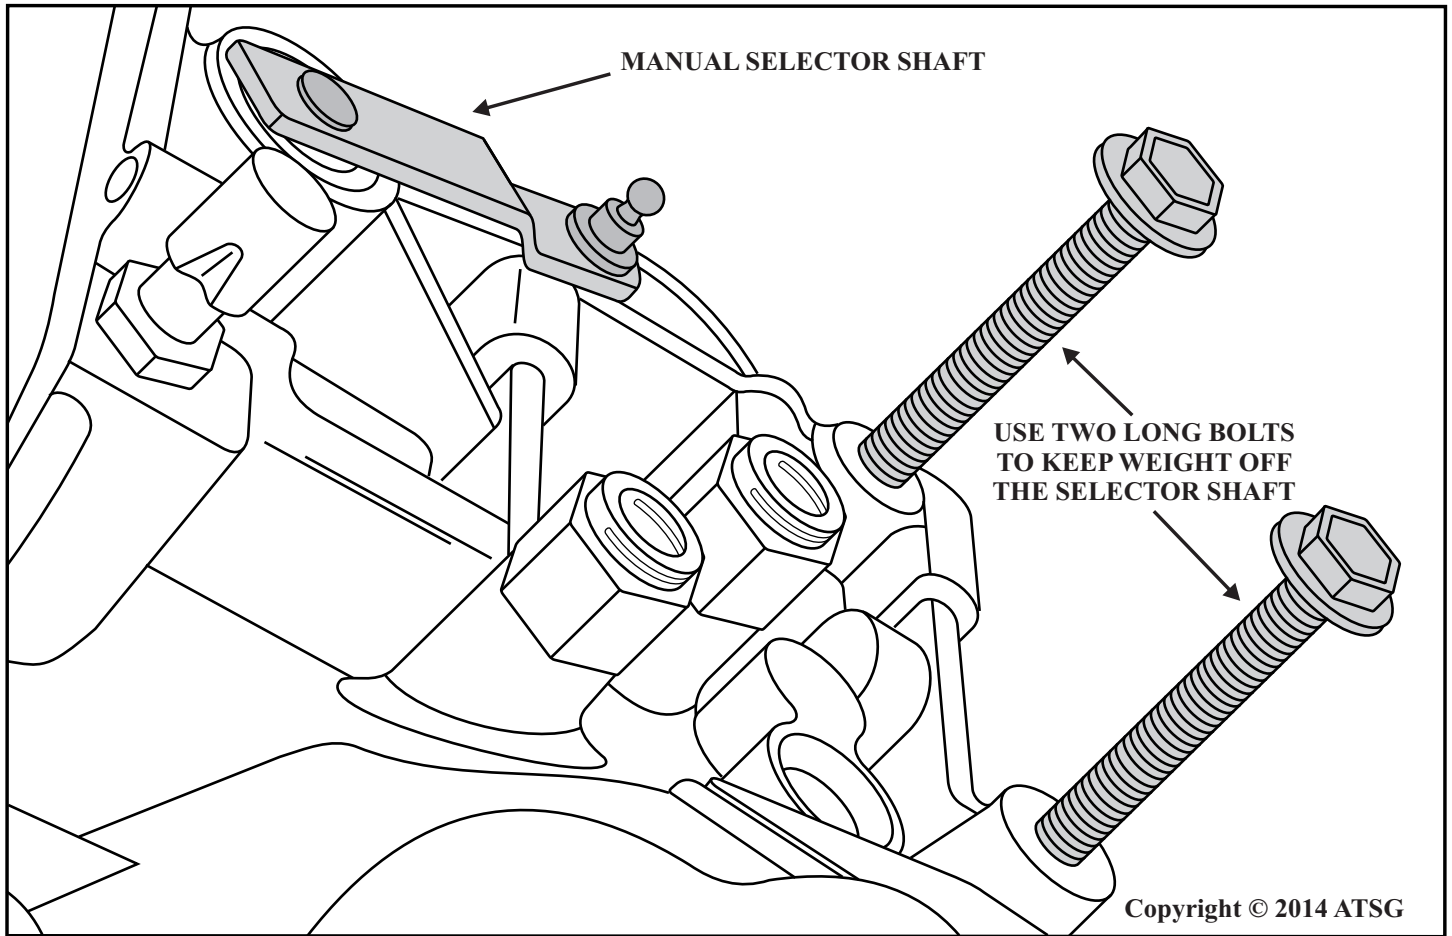

Figure 4
**CORRECTION:** One method of preventing this from happening is to install two long bolts into the threaded holes on top of the case as shown in Figure 4 so that even if the transmission is rolled over on that area the bolts will prevent the weight load from resting on the selector shaft.